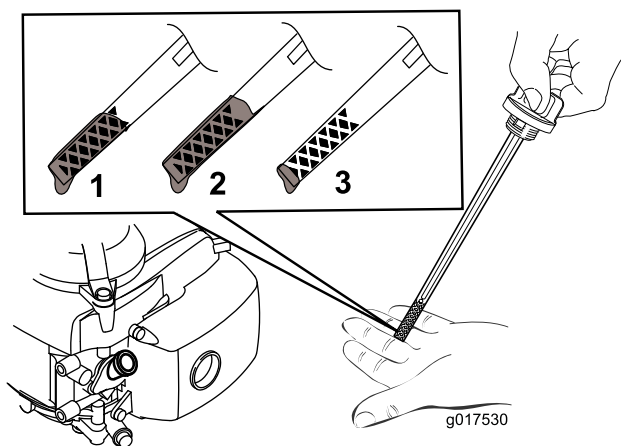

Figure 5
2. Remove the dipstick (Figure 5).
Note: Fill the engine crankcase with oil until the dipstick indicates that the engine oil level is correct as shown in Figure 5. If you overfill the engine with oil, remove the excess oil as directed in Changing the Engine Oil \(page 15\).